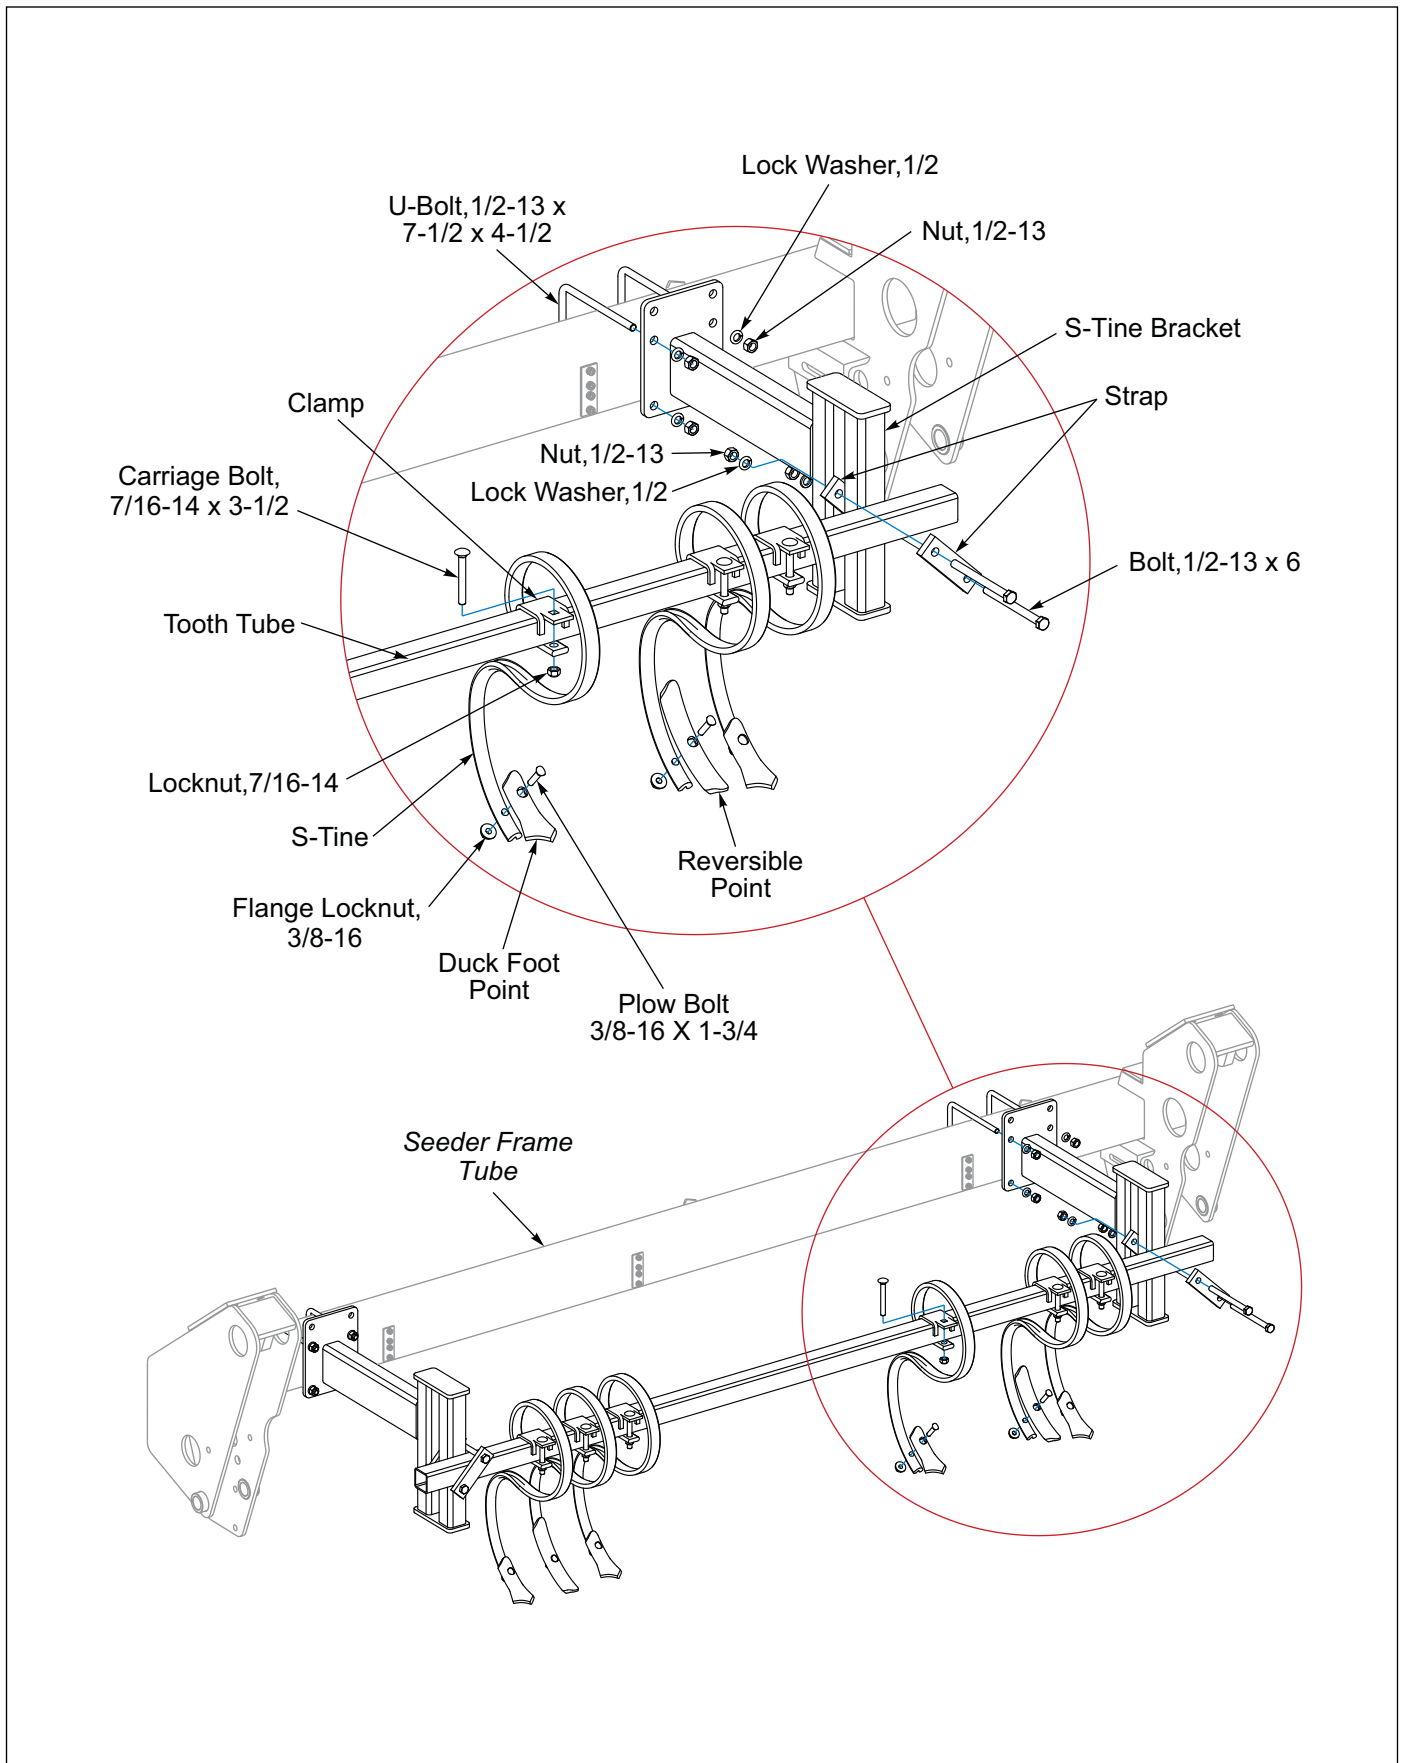

Figure 2-49: S-Tine Track Remover Kit - Optional
1. Assemble the S-Tine Brackets to the front of Seeder Frame Tube with 1/2-13 x 7-1/2 x 4-1/2 U-Bolts, Lock Washers and Nuts. Do Not tighten at this time. See Figure 2-49.